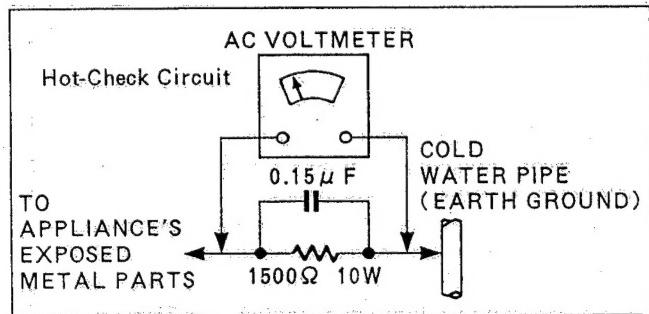

Figure 1
## LEAKAGE CURRENT HOT CHECK (See Figure 1)
2. Connect a 1.5K $\Omega$ , 10W resistor, in parallel with 0.15  $\mu F$  capacitor, between each exposed metallic part on the set and a good earth ground such as a water pipe, as shown in Figure 1.